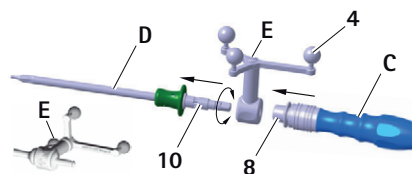

Fig. 8 Mounting the reference star unit ("calibration with ICM 4") and S⁴C handle (FW067R or FW165R) onto the S⁴C screwdriver
- Release locking sleeve 8, see Fig. 8.